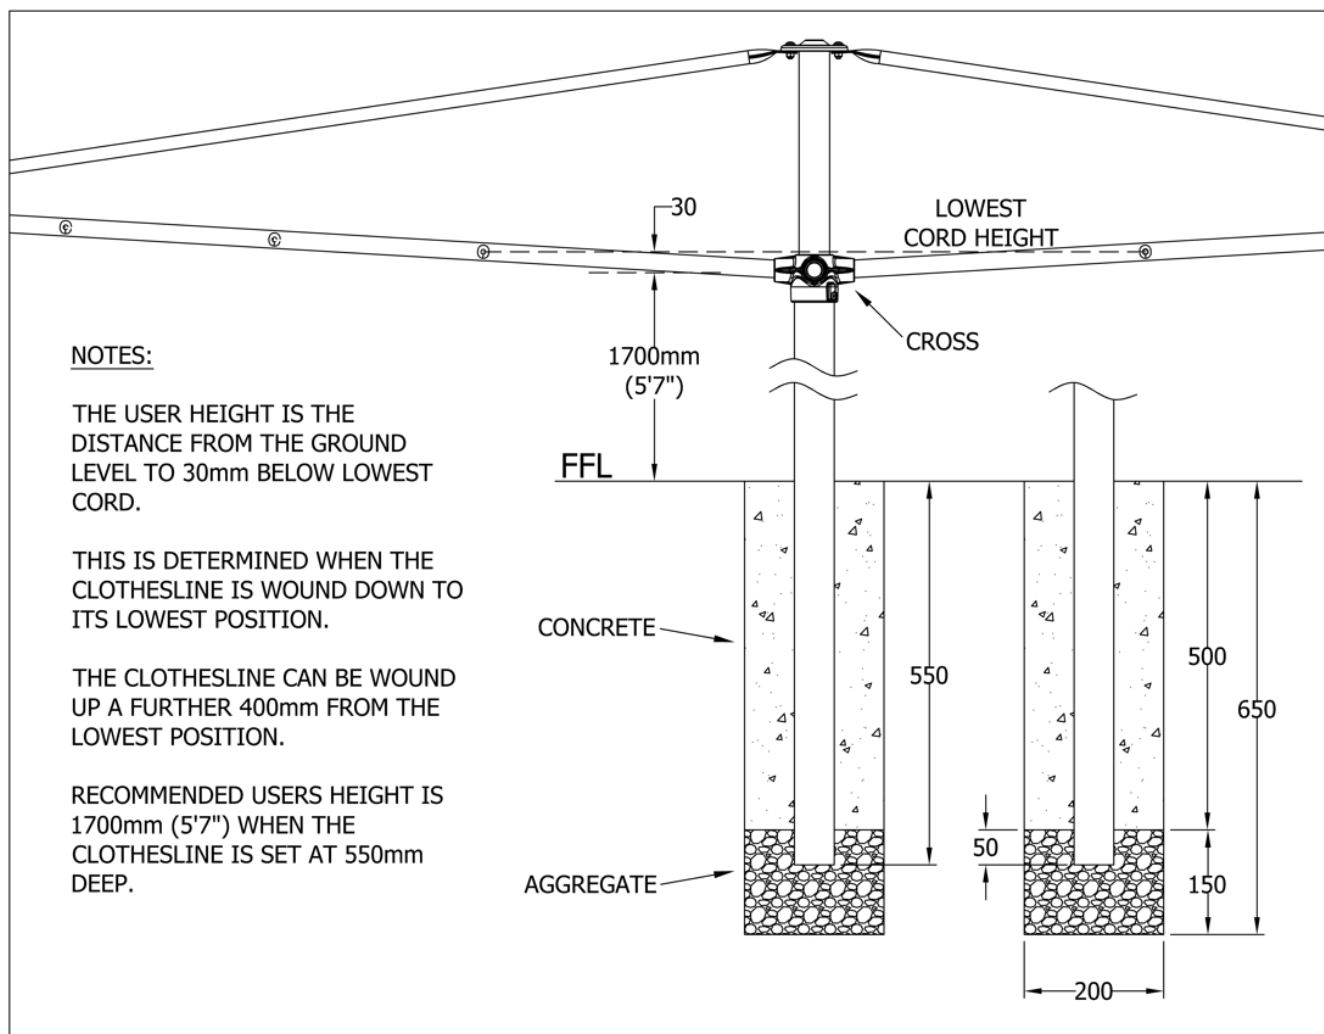

Fig 1. Super installation into ground.
1. Dig a 200 x 200mm hole 650mm deep. (Fig 1).
2. Fill the bottom 100mm with drainage aggregate. (Fig 1).
3. Sit the column on top of the aggregate and add an additional 50mm of aggregate up the sides. (Fig 1).
- The lowest wire height (innermost wire) will be 30mm above the end users head height. (Fig. 1).